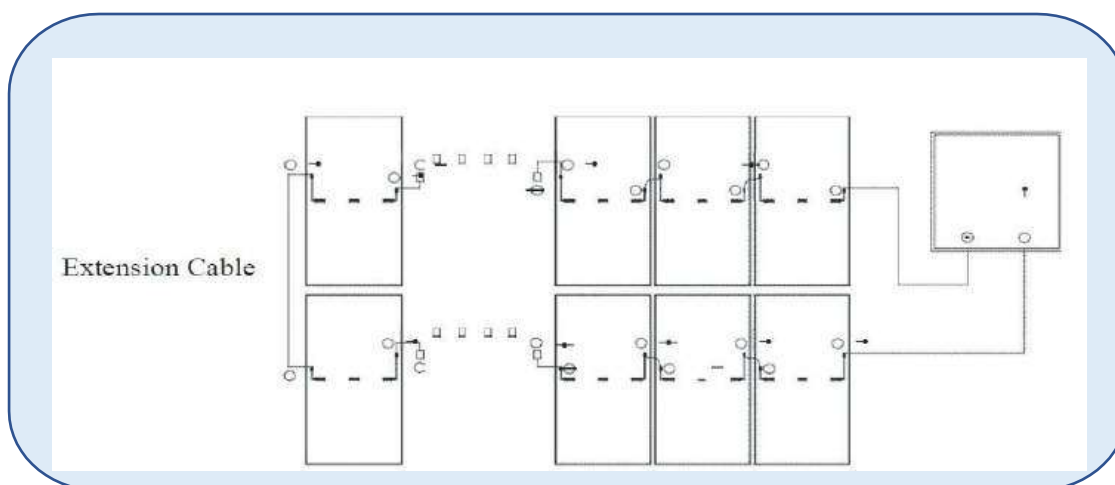
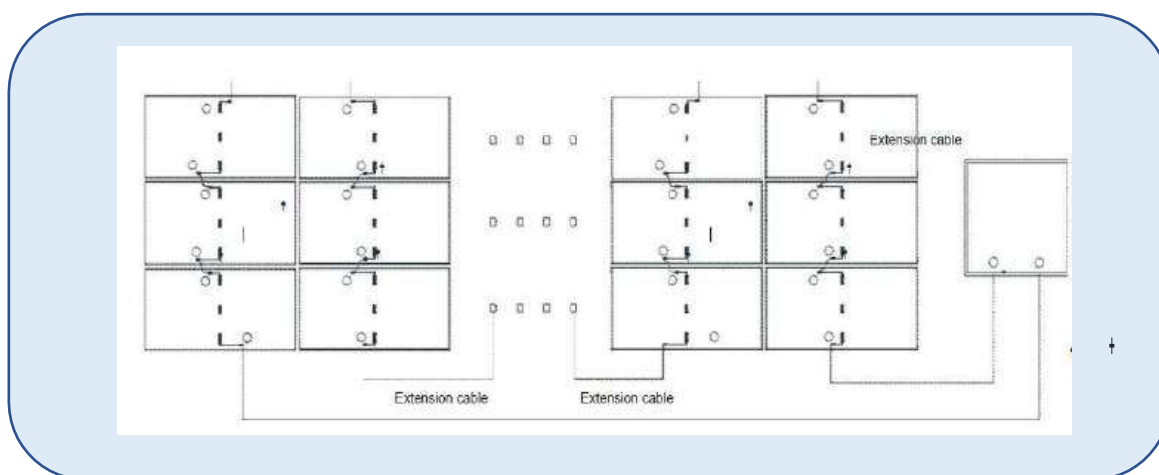

Fig. 8.2 Split J-Box at module middle position for vertical direction
Fig. 8.3 Split J-Box at module middle position for horizontal direction
- A. The Direct Current (DC) generated by the PV system can be converted to Alternating Current (AC) and connected to the public power grid. Different regions may have different policies, laws and regulations to stipulate the installation and grid-connection requirements of PV systems. Therefore, during the design, installation and grid-connection of PV system, please comply with the local policies, laws and regulations.
- C. In order to ensure the normal running of the system, when connecting modules or loads, please ensure that the polarity of the cable connection is correct. If the modules are incorrectly connected, the bypass diodes and junction boxes may be damaged. PV modules can be connected in series (Fig. 8.1), in parallel (Fig. 8.2) and in series-parallel (Fig. 8.3).